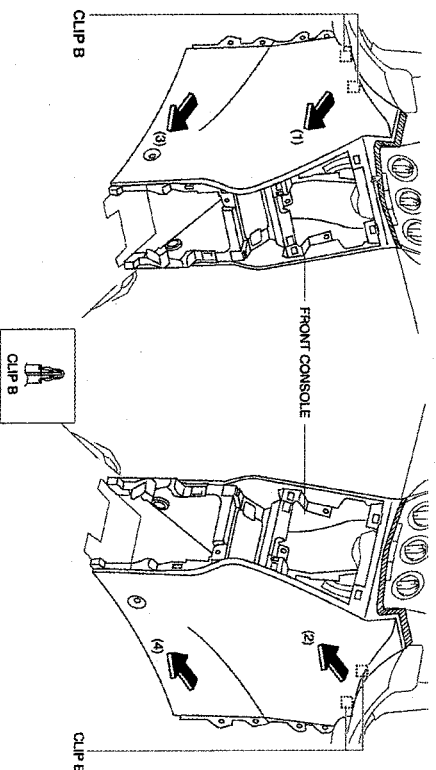

FIGURE 15
- 2.) PULL THE FRONT CONSOLE IN THE IN THE DIRECTION OF THE ARROWS (1), (2), (3) AND (4). REMOVE THE CONSOLE WHILE DETACHING CLIP B. (SEE FIGURE 15)